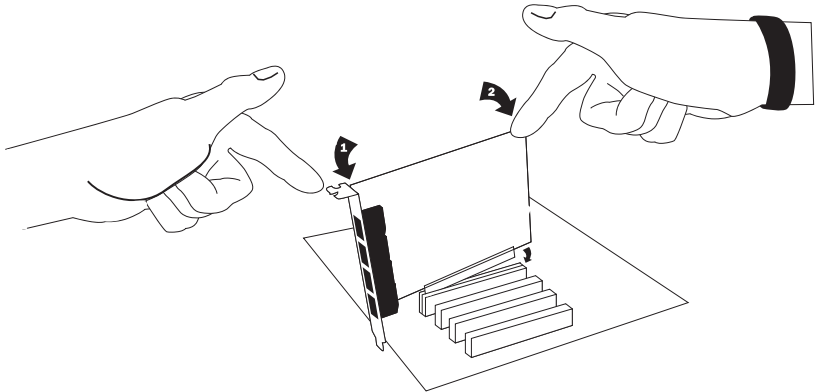

Figure 11: Insert the Card
3. Remove the bracket place holder and insert the card into a PCI Express slot. See Figure 11 for an example of card installation.